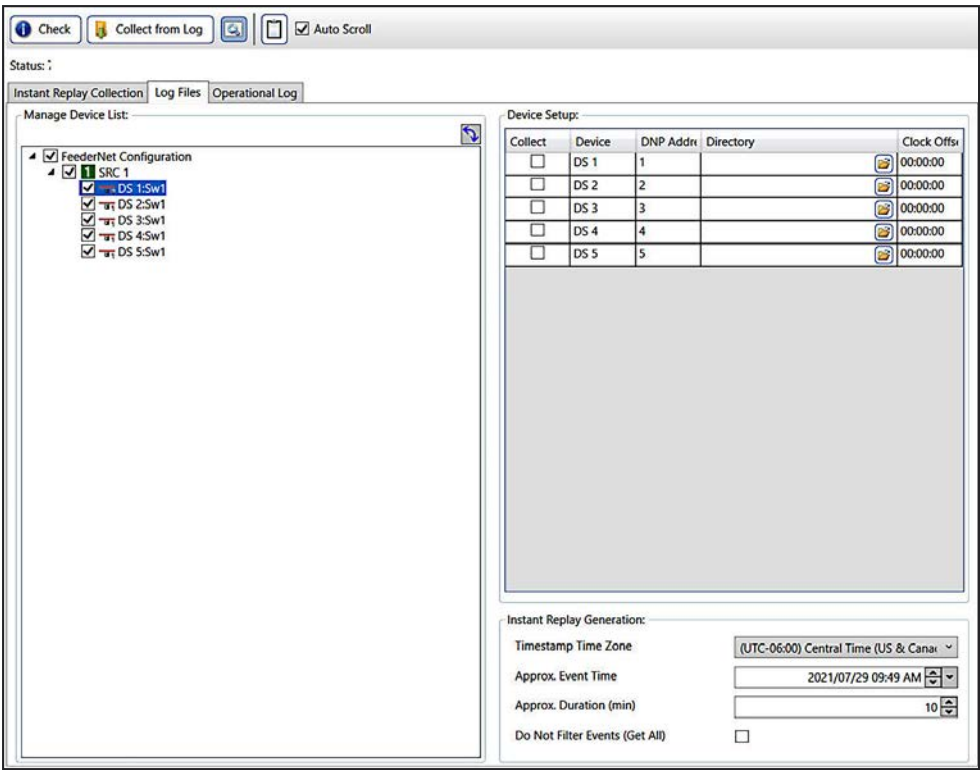

Figure 116. The *Communication Manager—Log Files* screen.
- STEP 5. Click the **Communicate to Devices** button in the upper toolbar. The IntelliTeam SG Communication Manager dialog box will open. Click on the **Log Files** tab. See Figure 116 on page 115.